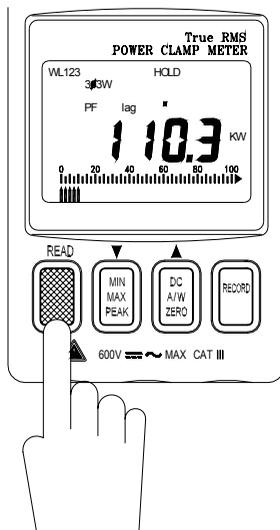

Figura 6
A. Misura $W_{R(L1)} / P_{FR(L1)}$ (consultare figura 6).